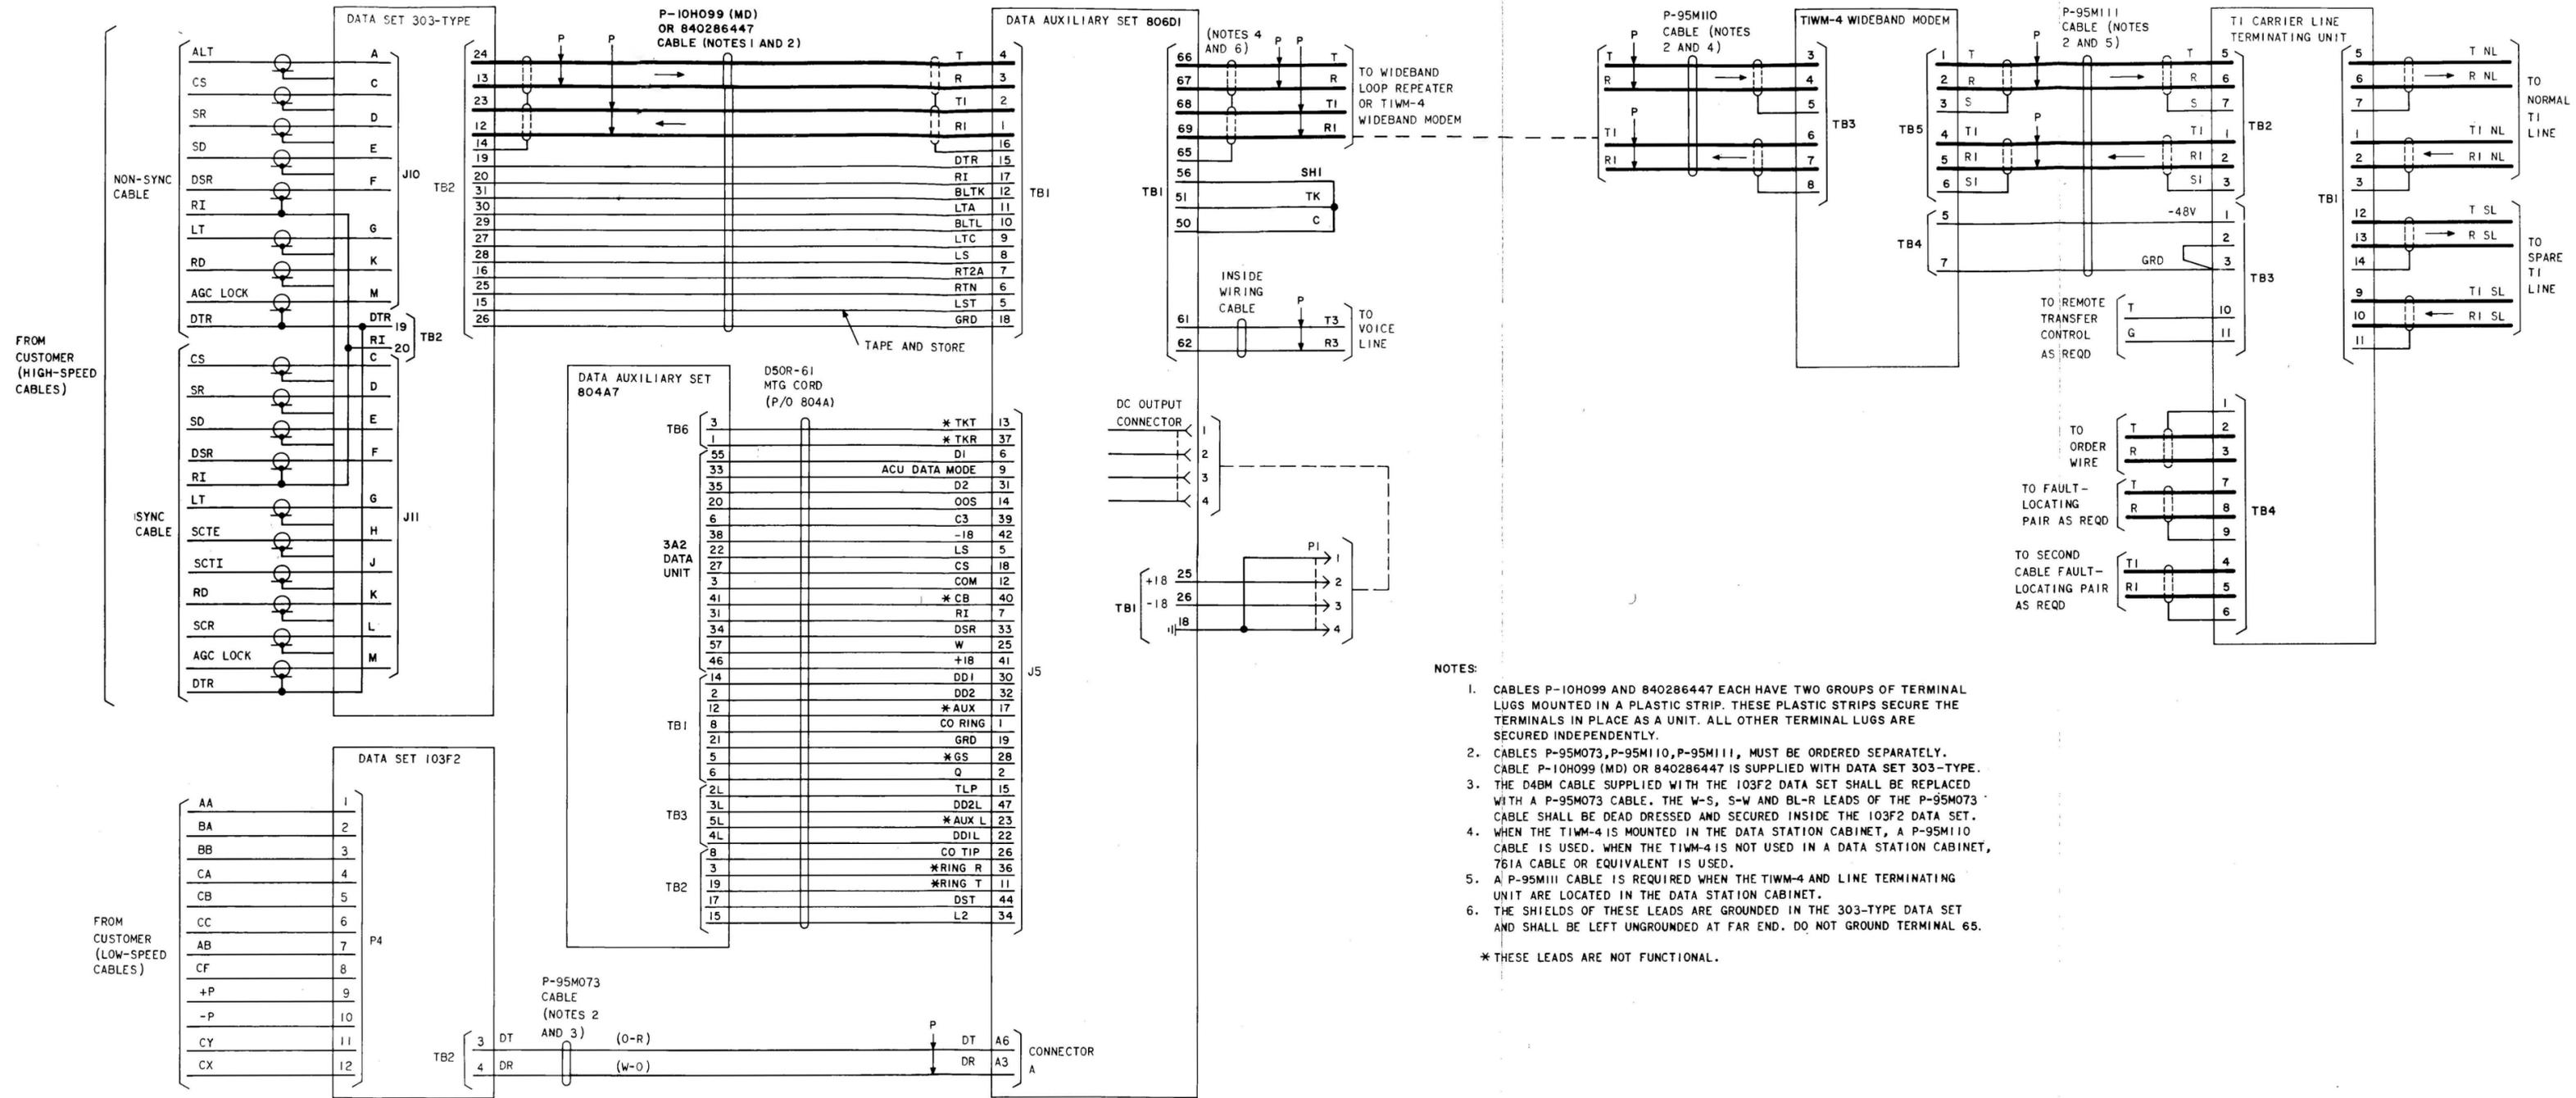

Fig. 7—Connection Diagram—Wideband Data Station Using DAS 806D1
- (b) To change Fig. 7 to show strapping required on DAS 806D1 when a DAS 801C automatic calling unit is *not* used.
- (a) Figure 7—revised